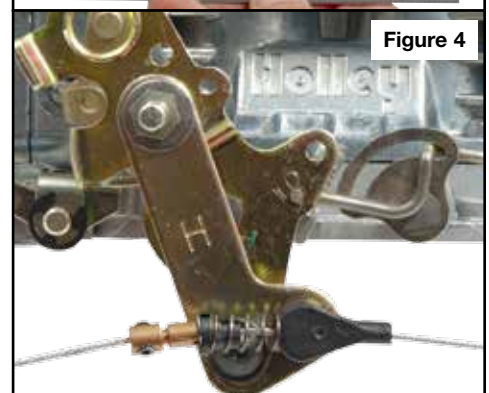

Figure 4
7. Slide spring over retainer and install OE TV cable plastic clip onto TV stud on TV corrector plate bracket. Correct installation should look like **Figure 4**.